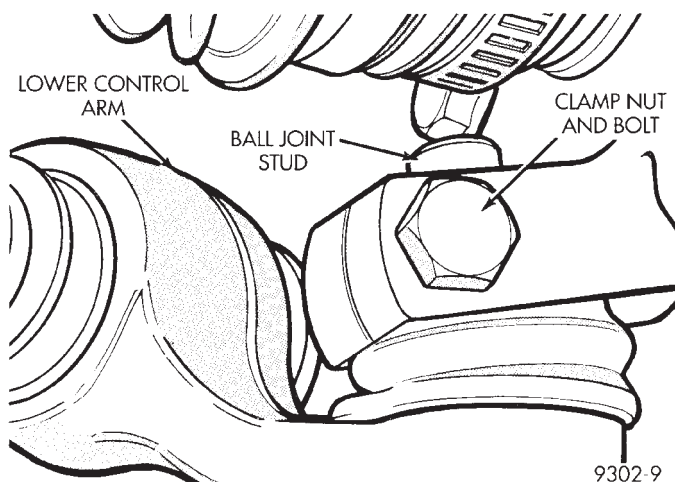

Fig. 44 Control Arm To Steering Knuckle Attachment
(1) Raise vehicle on jackstands or centered on a frame contact type hoist. See Hoisting in the Lubrication and Maintenance section of this manual, for the required lifting procedure to be used for this vehicle.
(2) Remove both front wheel and tire assemblies from the vehicle.
(3) Remove left and right ball joint stud to steering knuckle attaching nut and bolt (Fig. 44).
(8) Install lower ball joint studs into steering knuckles. Install steering knuckle to lower ball joint stud attaching bolts and nuts into steering knuckles (Fig. 44). Tighten attaching bolt to a torque of 55 N·m (40 ft. lbs.).
(9) Install the wheel and tire assembly.
(10) Tighten the wheel mounting stud nuts in proper sequence until all nuts are torqued to half specification. Then repeat the tightening sequence to the full specified torque of 129 N·m (95 ft. lbs.).
(11) Lower vehicle to the ground.
(12) With the full weight of the vehicle supported by the suspension. Use a long extension, and tighten the 4 stabilizer bar bushing retainer attaching bolts to a torque of 55 N·m (40 ft. lbs.).
(13) Remove the webbing material from the engine. Remove the engine support fixture from the vehicle.
(14) Position the vehicle on an alignment rack and check that the vehicle's Toe is within specifications. Adjust the vehicle Toe setting if not within specifications.